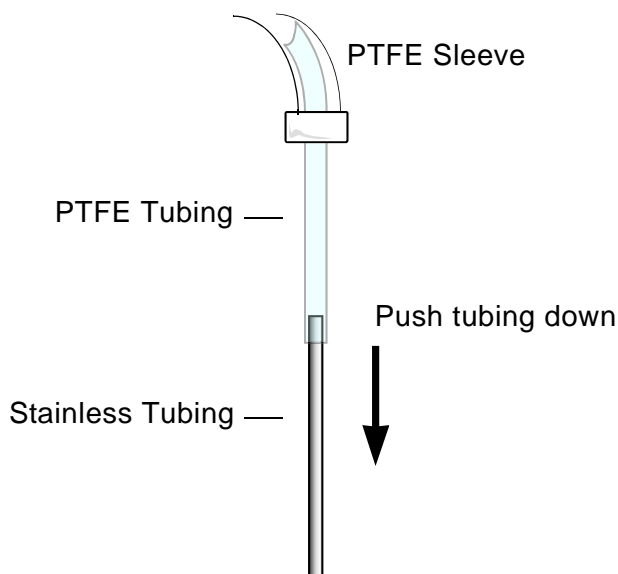

Figure 5-9. PTFE Tubing Installation
3. Carefully, without developing kinks in the tubing, push the PTFE tubing end downward, over the top of the stainless tubing, as shown in Figure 5-9.